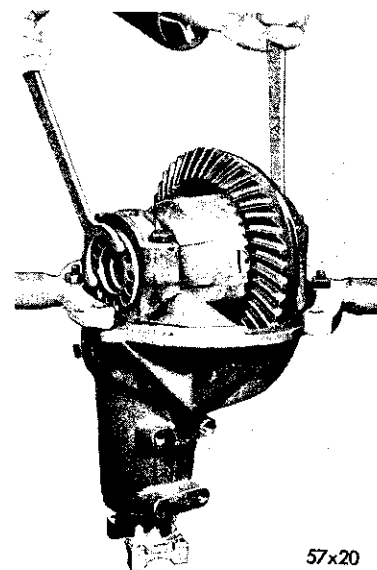

Fig. 25—Adjusting Differential Bearings
(3) Note the identification marks on the differential bearing adjusters and reinstall each in its respective side.
(4) Screw the adjuster in by hand. No attempt should be made at this time to apply an excessive pressure. To square the bearing cups with the bearing, turn the adjusters "in" with spanner wrenches Tool C-406A (Fig. 25), until cups are properly squared with the bearings and end play is eliminated with some backlash existing between the drive gear and pinion.
(5) While facing each bearing support cap, tighten the left hand bolt 85 to 90 foot-pounds torque on each side.